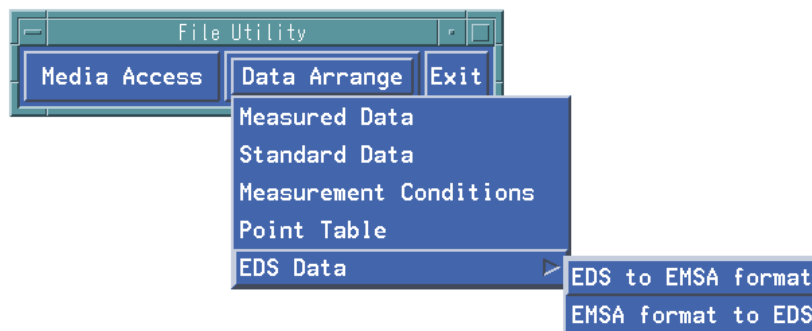

Fig. 53 File Utility–Data Arrange menu
The **File Utility–Data Arrange** menu opens as shown in Fig. 53.
1. Select EDS to EMSA format from the submenu (refer to Fig. 53).
1. Select **EMSA format to EDS** from the submenu (refer to Fig. 53).